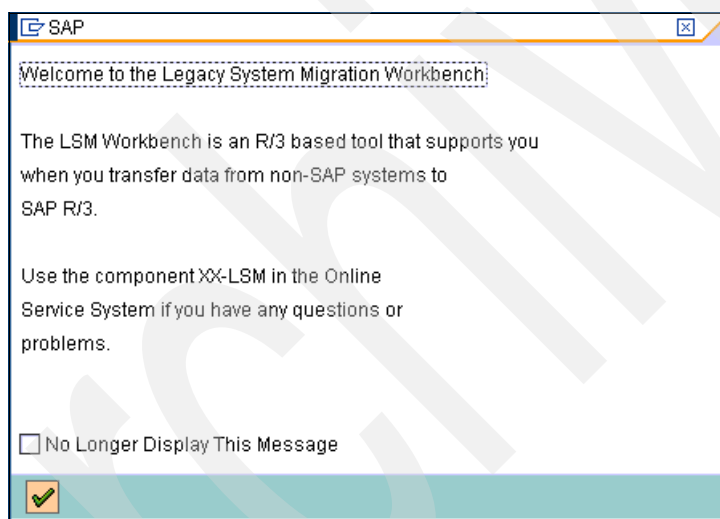

Figure 30-5 Transaction LSMW (Welcome Legacy System Migration Workbench)
1. Use transaction LSMW to start working with the LSMW. Figure 30-5 shows the welcome window.